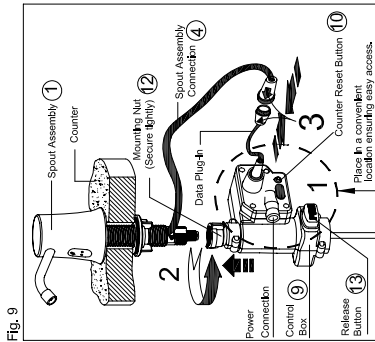
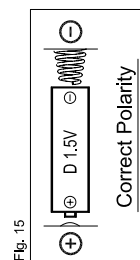

Fig. 9
Fig. 15
- ### 5-1. Installation procedure (Fig. 9).
1. Ensure area around soap tank release button (10) and counter reset button (11) and connection line is clear for operation.
2. Confirm position then turn mounting bracket (12) and control box onto spout shaft.
3. Plug-in connection line (4) from spout into control box.
- ### 6-1. Correct Polarity (Fig. 15).
4. Install 4 "D" 1.5V alkaline batteries (Fig. 15).